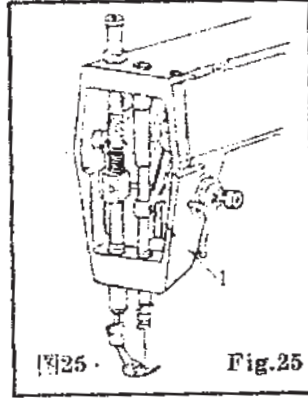

图25 Fig.25
- (1) 旋松旋梭的三个固定螺钉；
- (2) 转动上轮，使机针下降到最低位置后上升 2.2 毫米；
- (3) 转动旋梭，使勾线尖到达机针的中线处；
- (4) 松开机针连接轴紧固螺钉 (图 25)；
- (5) 调整机针的高度，使旋梭勾线尖高于机针孔上边 2 毫米；最后将全部紧固螺钉旋紧。
- (1) Loosen the three set screw of rotary hook,
- (2) Turn balance wheel to lower than the needle in the lowest position and then raise it 2.2mm.
- (3) Turn the rotary hook to make the looping point on the position of the midline of needle.
- (4) Loosen the set screw of needle bar link shaft (Fig. 25)
- (5) Regulate the height of needle bar to make the looping point 2mm higher than the hole of needle.